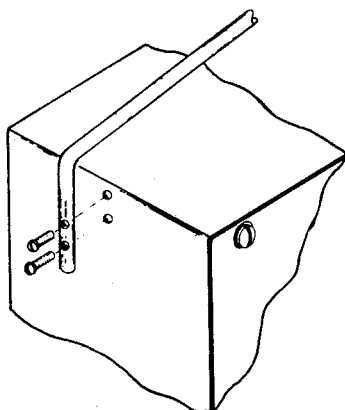

Figure 2
- 2) Turn the instrument on its side and attach the electrode support rod. Align the two holes on the support rod with the 2 holes on the case and fasten with the supplied screws (see figure 2).